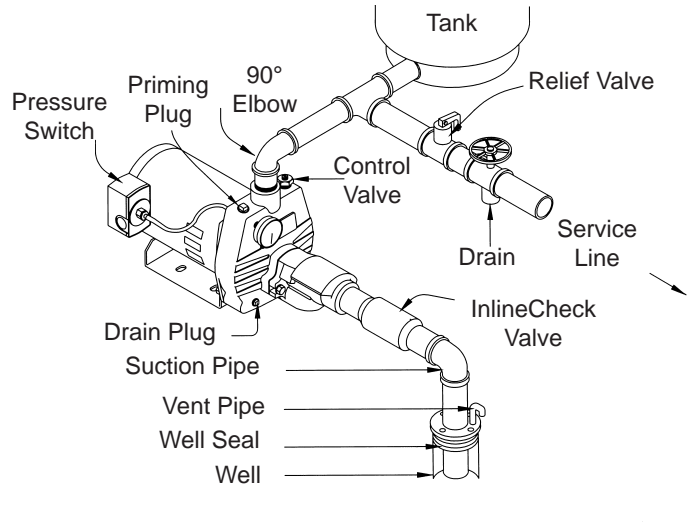

Fig. 3b SHALLOW WELL (WITH INLINE CHECK VALVE)
- b) **Suction & Pressure Pipe:** It is recommended that only new clean 1-1/4" pipe or hose be used. If the pump is installed any appreciable distance away from the source of water, the suction pipe should be increased to 1-1/2". Horizontal lengths of pipe must gradually slope upwards from the source of water to the pump to avoid air pockets in the line. Thread compound should be used on all pipe joints and connections should be thoroughly tightened. **A foot valve must be installed** and its operation should be checked since a leak will prevent proper operation of the system. Make sure the foot valve is located so that it will be submerged at all times. If the well cannot supply as much water as the pump can draw, install a tailpipe up to 30 feet long between the injector and the foot valve. As the well draws down under heavy demand, the pump's capacity will be reduced, and the level will not go below the foot valve, which would cause the pump to lose its prime. If a sandpoint or driven well is used, install a check valve next to the pump suction instead of the foot valve (Fig. 3b). **All installations must have a foot valve or a check valve in the suction pipe.**